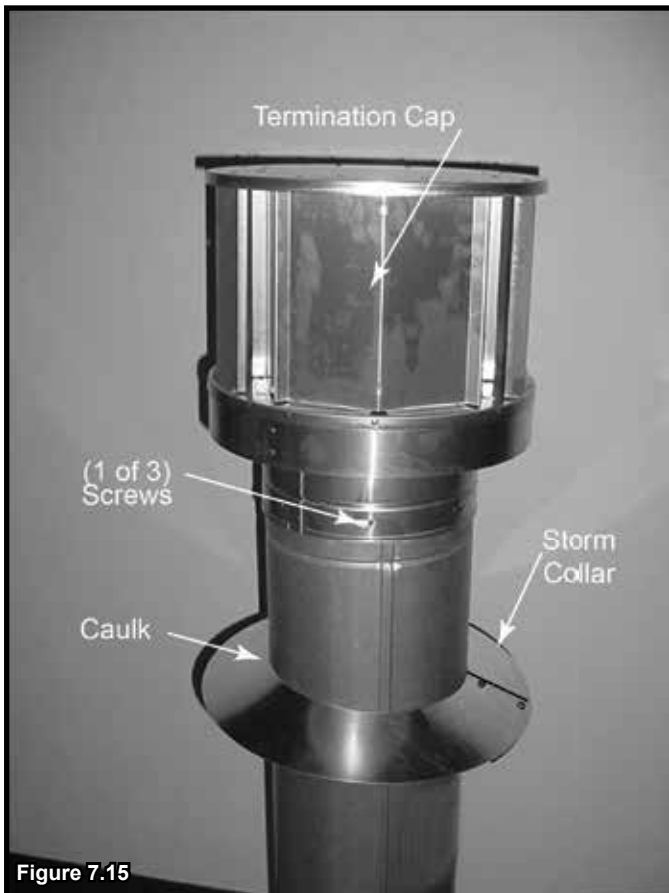

Figure 7.15
- Caulk around the top of the storm collar. See Figure 7.15.
- Secure the cap by driving three self-tapping screws (supplied) through the pilot holes in the outer collar of the cap into the outer flue of the pipe. See Figure 7.15.